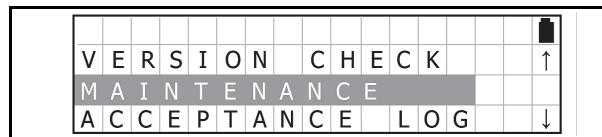

Figure 36 Function Selection Screen 6
2. Select “MAINTENANCE” from the Function Selection Screen and press the OK Key to select it (See Figure 36).